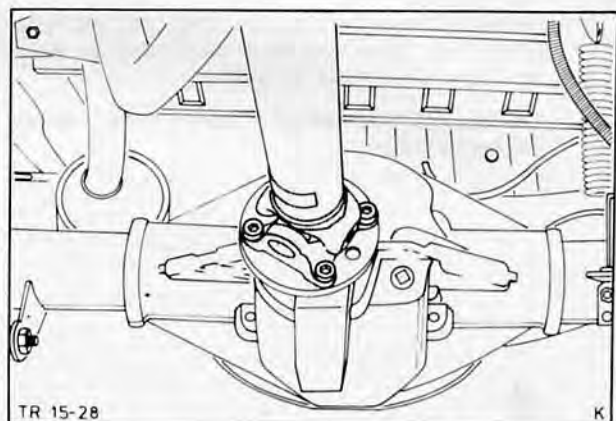

Fig. 15. Attach driveshaft to drive pinion flange
15. Bolt driveshaft to drive pinion flange, Fig. 15.